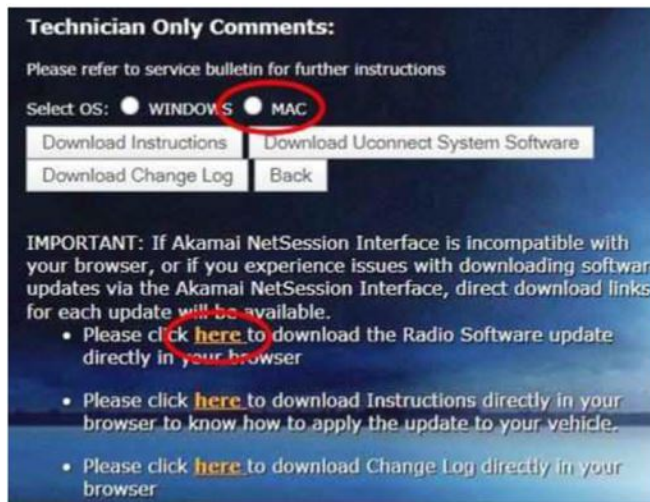

Fig. 2
8. Download the software update file to your local PC's desktop. Make sure to select the “MAC” radial button for all downloads Fig. 2